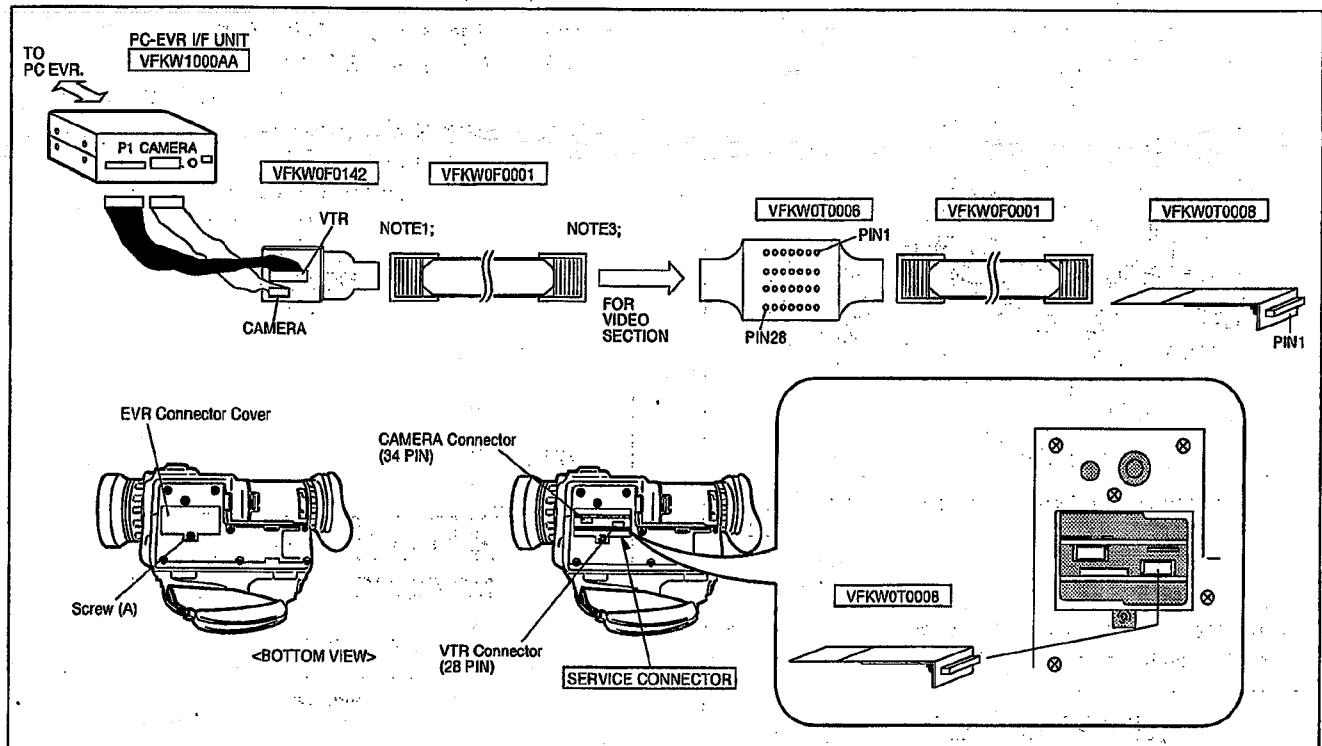

Fig. A17
- Play back the cassette tape and confirm that the tape travels without curling at the upper and lower guides on the following posts in the Play and REV modes as shown in Fig. A17.
4. Adjust the envelope signal by connecting the oscilloscope with "Tatsujin Kit" as shown in Fig. A17.